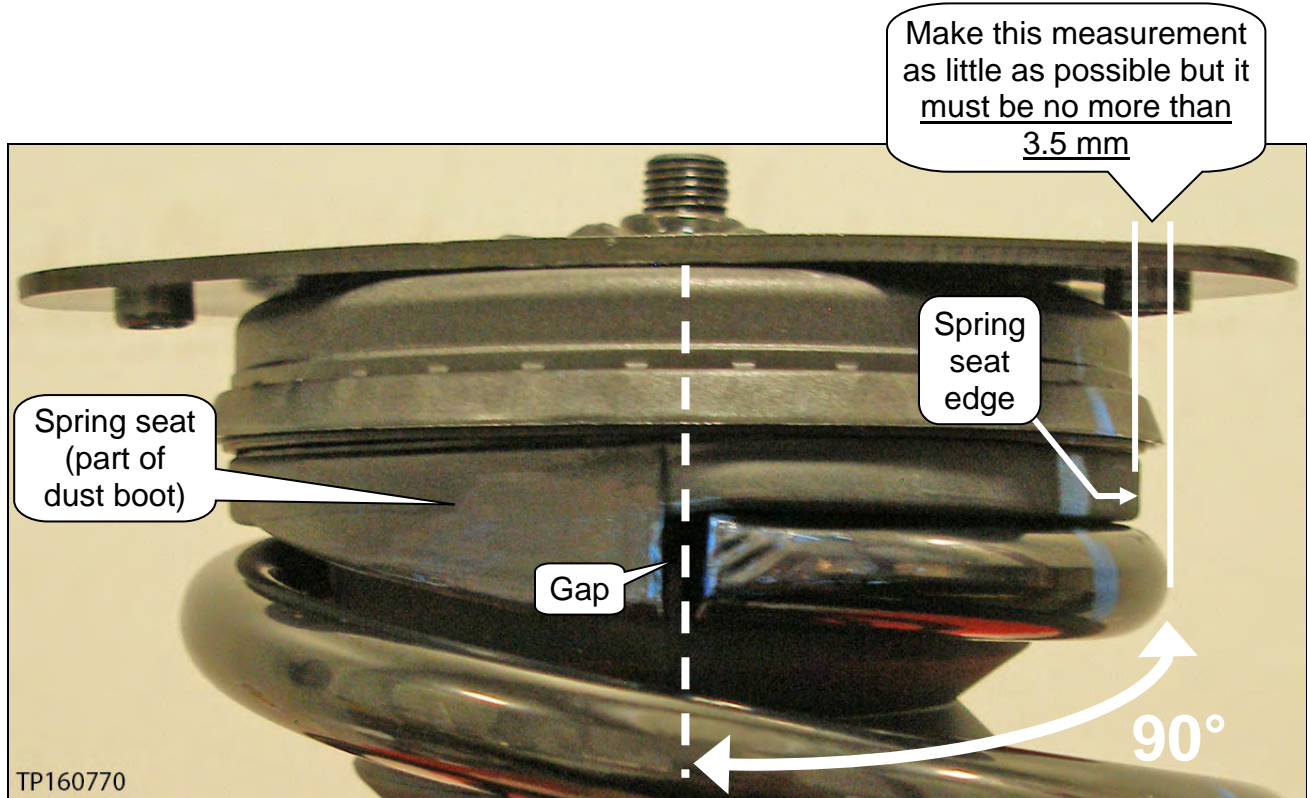

Figure 7
- The side edge of the upper coil spring, located 90° counter clockwise from the gap, needs to be as little as possible but it must be no more than 3.5 mm from the edge of the spring seat (see Figure 7).